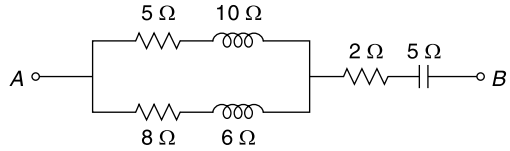

Fig. 5.56 Circuit diagram for Ex. 5.64
5.64 In the arrangement shown in Fig. 5.56 calculate the impedance between A and B and the phase angle between voltage and current.